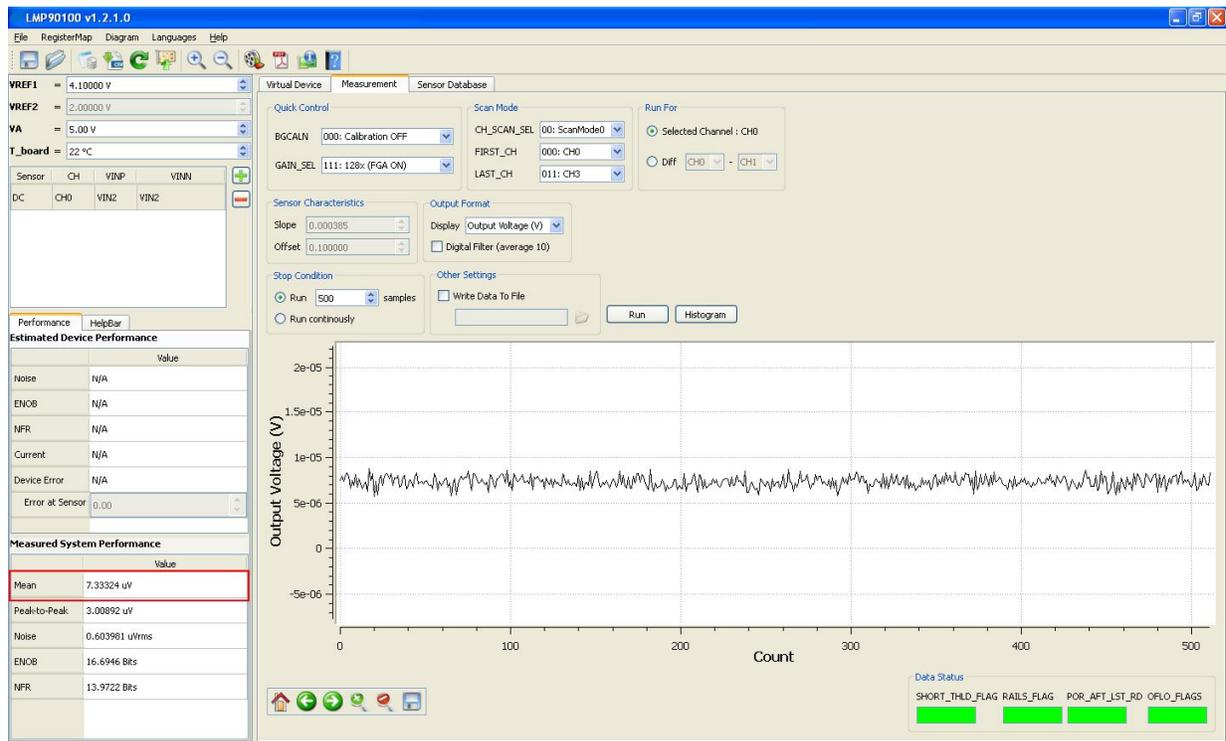

Figure 11 - Results for Shorted Input Test without Calibration
2. Under the “**Output Format**” field, select Display “**Output Voltage (V)**”
4. Click on the “**Run**” button to view the output voltage results. A reading in the hundreds of  $\mu V$  should be plotted similar to Figure 11.